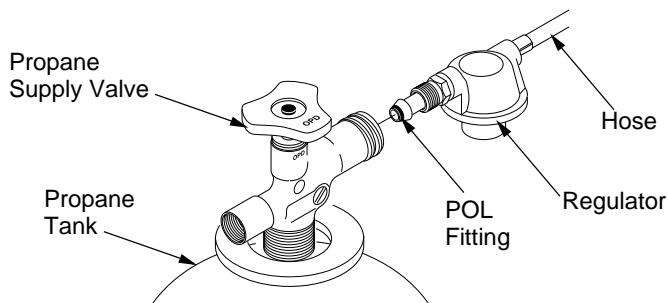

Figure 6 - Regulator Position
2. Connect POL fitting on hose/regulator assembly to propane tank(s). Turn POL fitting counterclockwise into threads on tank. Tighten firmly using wrench. **IMPORTANT:** Position regulator so that hose leaving the regulator is in a horizontal position (see Figure 6, page 5). This places the regulator vent in the proper position to protect it from the weather.